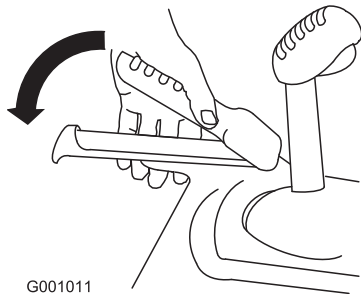

Figure 30
1. To engage the traction drive, squeeze the left hand (traction) lever to the handgrip (Figure 30).